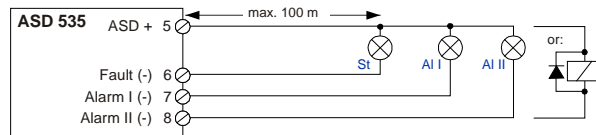

Fig. 43 Wiring the OC outputs
- When connecting inductive consumers (e.g. relays), a freewheel diode is to be installed directly at the consumer (**Fig. 43**).